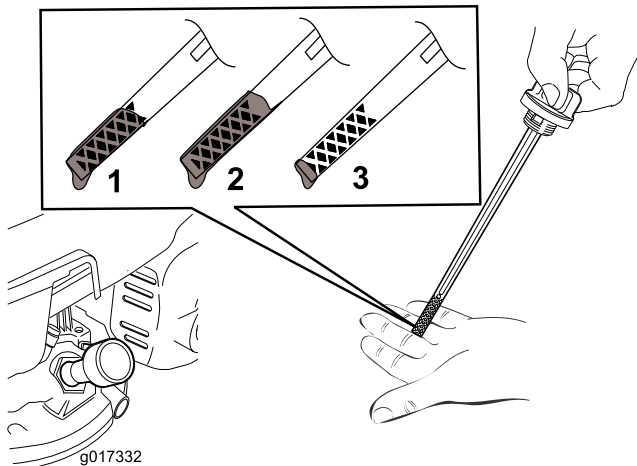
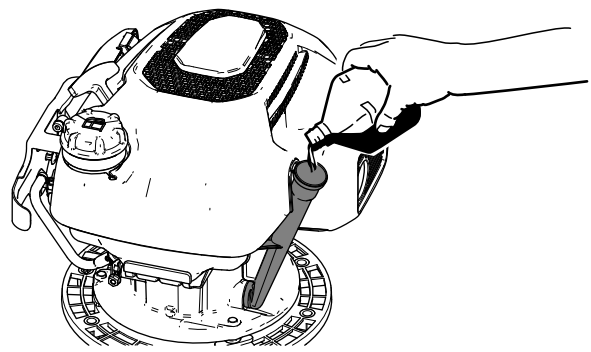

Figure 34
Figure 35
5. If the oil level is near or below the lower limit mark on the dipstick (Figure 34), slowly pour the specified engine oil into the oil-filler neck (Figure 35) and wait 3 minutes.
5. Align a drain pan next to the deck at the oil-filler neck side of the machine and on the ground (Figure 35).
1. Slowly pour the specified engine oil into the oil-filler neck (Figure 35) and wait 3 minutes.